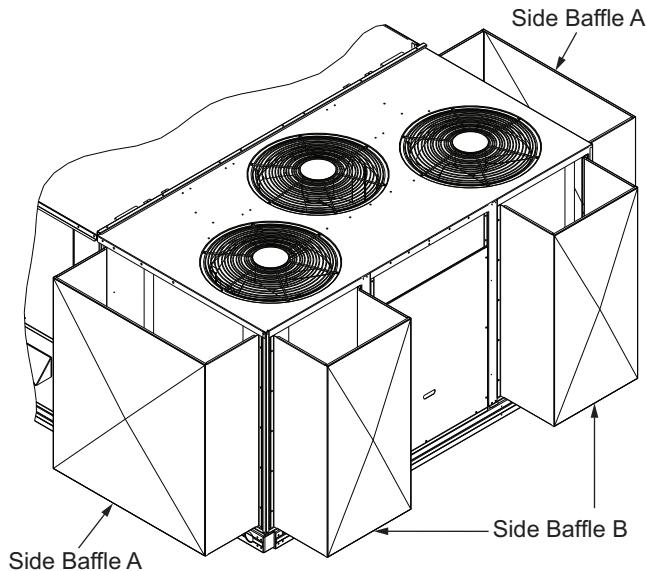

Fig. 29 — Cabinet C — Wind Baffle Locations for 48/50FC20, 48/50GC**17, 50FCQ*17, 582K/559K*20, 581K/551K*17, 547K*17, RGV/RAV210, RGW/RW181, and RHV181 Units**
- For 48/50FC**20, 48/50GC**17, 50FCQ*17, 582K/559K*20, 581K/551K*17, 547K*17, RGV/RAV210, RGW/RW181, and RHV181 units, use Fig. 29, Fig. 31-32, and Table 6.